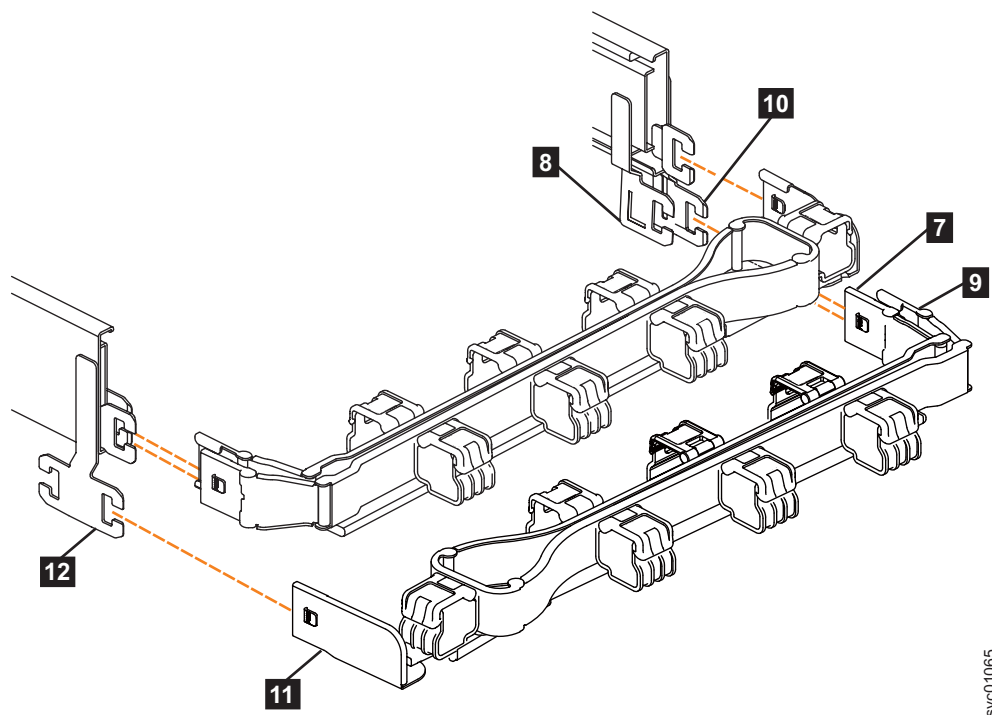

Figure 48. Comparing the location of the components of the CMA assemblies
Note: The procedure for attaching the lower CMA assembly is the same as the procedure to attach the upper CMA assembly. However, the connector locations are reversed. For comparison, Figure 48 on page 67 shows the upper and lower CMA assemblies as they are aligned to the support rails. The support rail connector of the upper CMA attaches to the right rail. The support rail connector of the lower CMA **11** attaches to the left rail.
5. Install the inner connector of the lower CMA assembly (**7**) to the inner member of the right support rail (**8**), as shown in Figure 48).
6. Install the outer connector of the lower CMA assembly (**9**) to the outer member of the right support rail **10**, as shown in Figure 48.
7. Attach the support rail connector on the lower CMA assembly (**11**) to the connector on the left support rail (**12**), as shown in Figure 48. Ensure the lower CMA assembly is securely attached to the hooks on the end of the support rails.